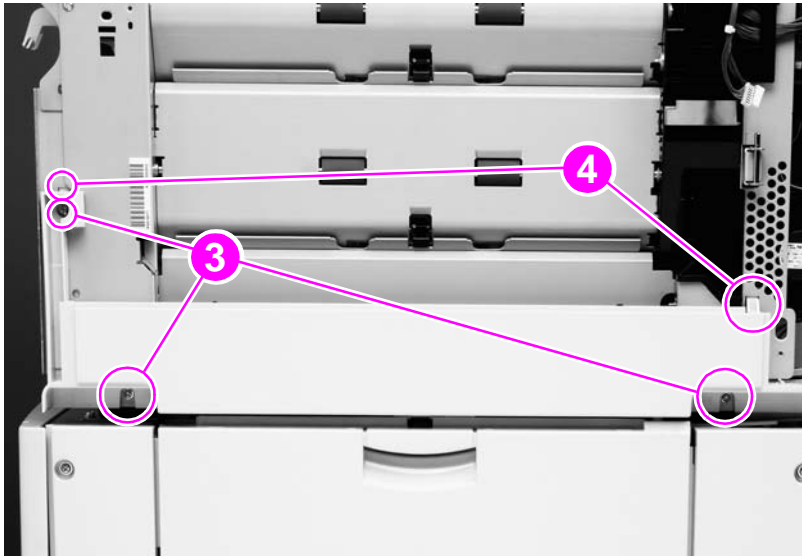

Figure 68. Paper-input unit (3 of 5)
- Reinstall the right lower cover (figure 68 on page 127) before the right rail cover (figure 48 on page 110).